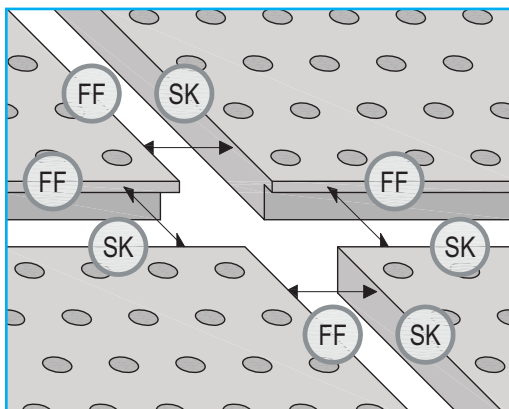

FIGURE 4 FF Edges Alignment
- Place FF edge adjacent to SK edge along short and long edges. [Figure 4]